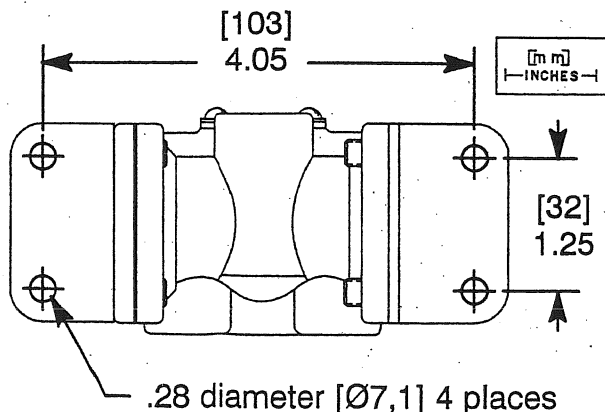
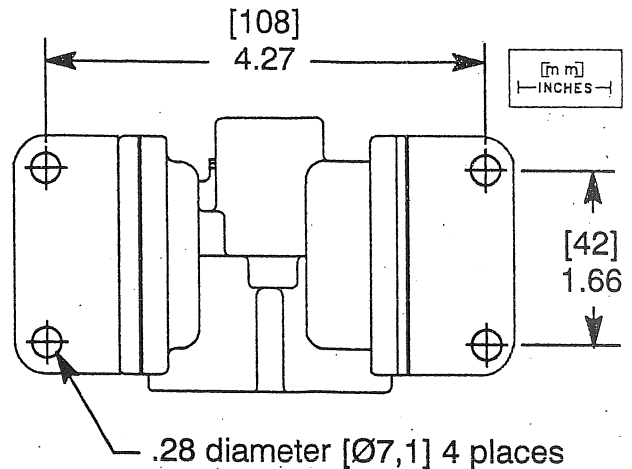

Figure 3. Mounting dimensions – 5/16" Orifice
Figure 4. Mounting dimensions – 5/8" Orifice
Mounting brackets (2) are optional. For valves with a 5/16" orifice, 1/4" or 3/8" NPT refer to Figure 3; for 5/8" orifice, 3/8" or 1/2" NPT Figure 4. Check nameplate to determine orifice size and pipe size.